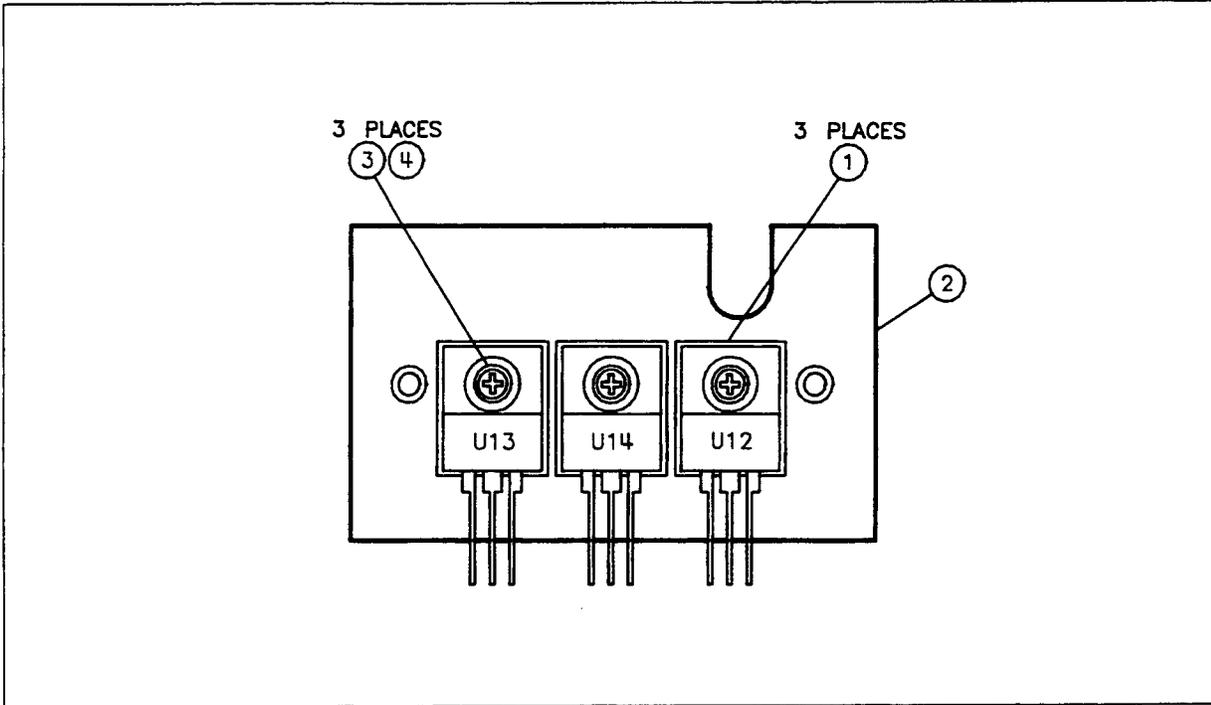

Figure 5-9. U12, U13, U14 and Attaching Hardware
5. Remove the A1 motherboard. Pry the front-left corner up by inserting a small screwdriver through the hole in the front-left corner of the motherboard and pry upward. If replacing the Motherboard, desolder U12, U13, and U14 shown in Figure 5-9 (attached to regulator heat sink #2). Solder the U12, U13, U14 assembly to the new motherboard.
6. To reinstall the motherboard: Move all cables out of the way and press the motherboard firmly onto the inner chassis standoffs. Replace screws (items 2 and 5), along with related washers. Reattach all motherboard cables.